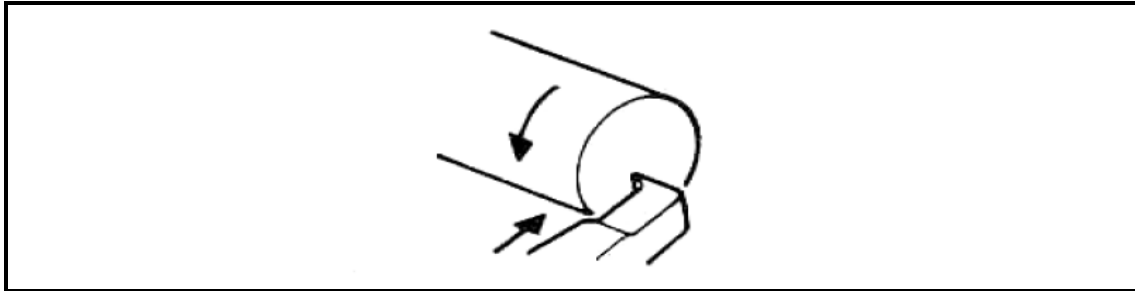

FIGURE 4.9
4.9 Which lathe operation is shown in FIGURE 4.9 below?